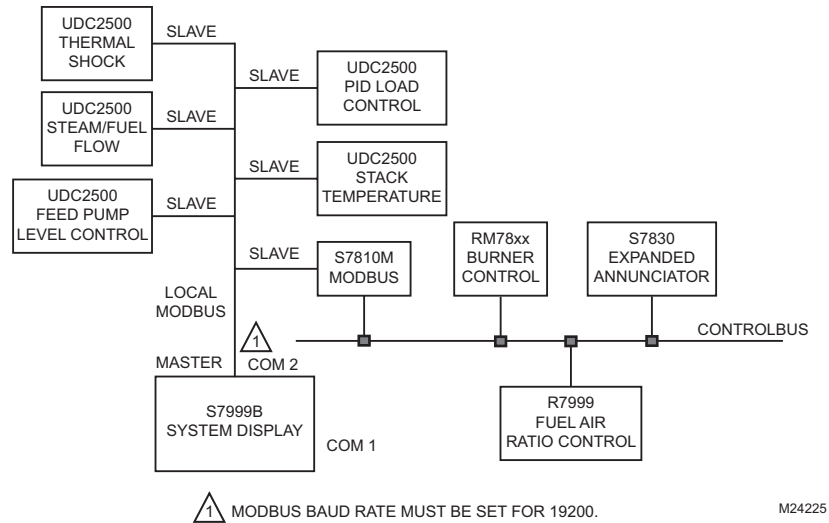

Fig. 6. Local S7999B configuration (COM 1 not used).
The S7999B manages only a single burner/boiler system attached to COM 2 port (see Fig. 6). In this mode, COM 1 has several options:
- Not used (see Fig. 6). The device's responsiveness can be improved slightly if COM 1 is not used.
Fig. 6 depicts the configuration when COM 1 isn't used for any other connection, i.e., the S7999B manages exclusively just the burner/boiler system connected to the COM 2 port.